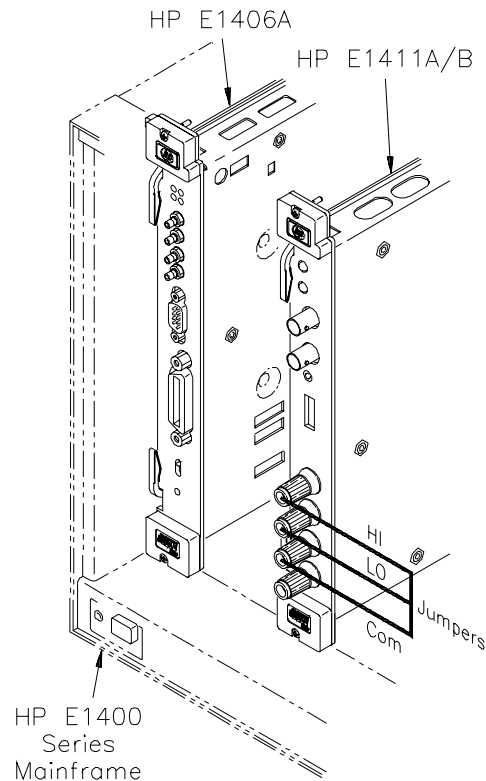

Figure 4-1. DC Voltage (Zero Volt Input) Setup
1. Connect the equipment as shown in Figure 4-1.